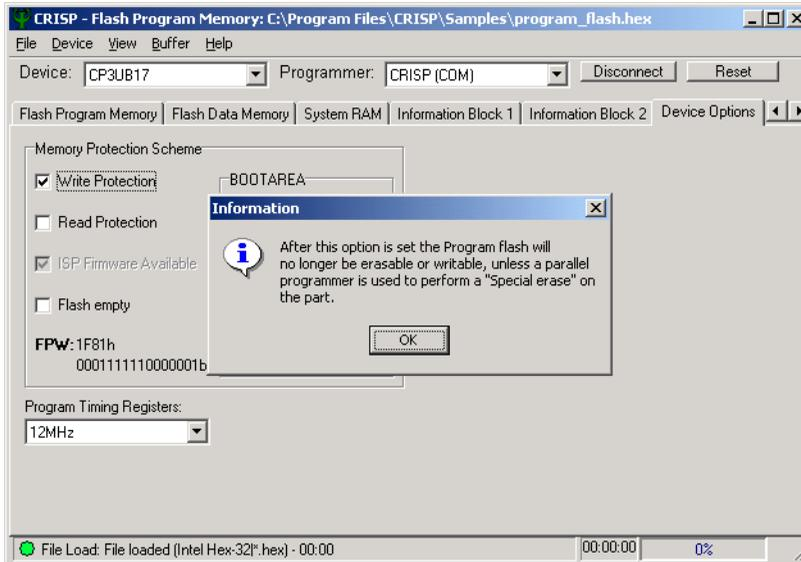

Figure 6-7. Write Protection Warning
- 3. Write Protection Warning.** Some settings are irreversible and may make the device permanently unusable. For example, write protection cannot be disabled after it is enabled (unless a special programmer is used). In Figure 6-7, selecting the Write Protection setting has opened a pop-up dialog box to warn the user.